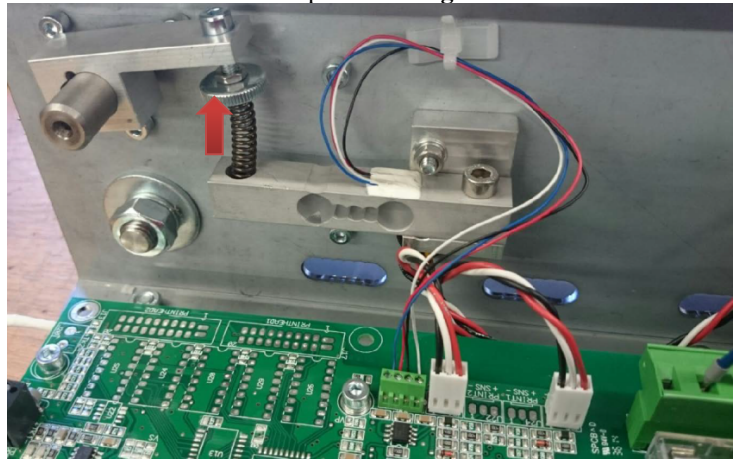

Figure 4
5. When the value behind “force” would be lower than 95 Newton, adjust by turning the aluminum grooved screw clockwise to increase the pressure and counterclockwise to decrease the pressure. **Fig. 4**